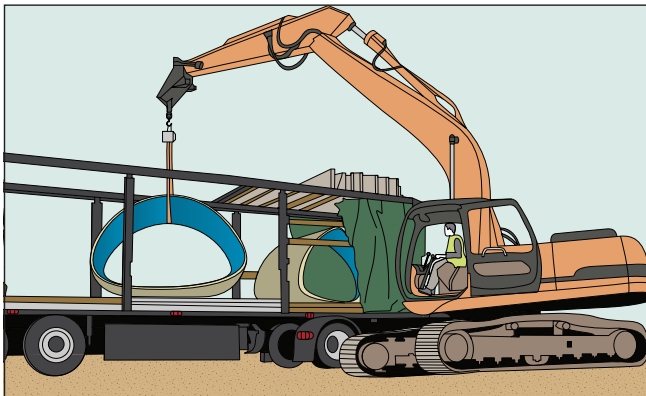

Fig. 9: Unloading from the upper part of the truck
- From the upper part of the truck using a crane or an excavator (Fig. 9).